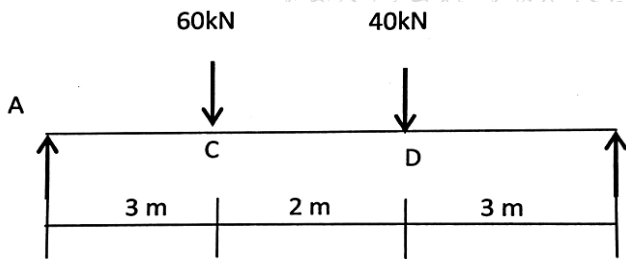

Fig. 3
- Q.3 A beam of length 7m is simply supported at its ends as shown in fig.3. Determine the position and magnitude of the maximum deflection. Using Macaulay's method. 15